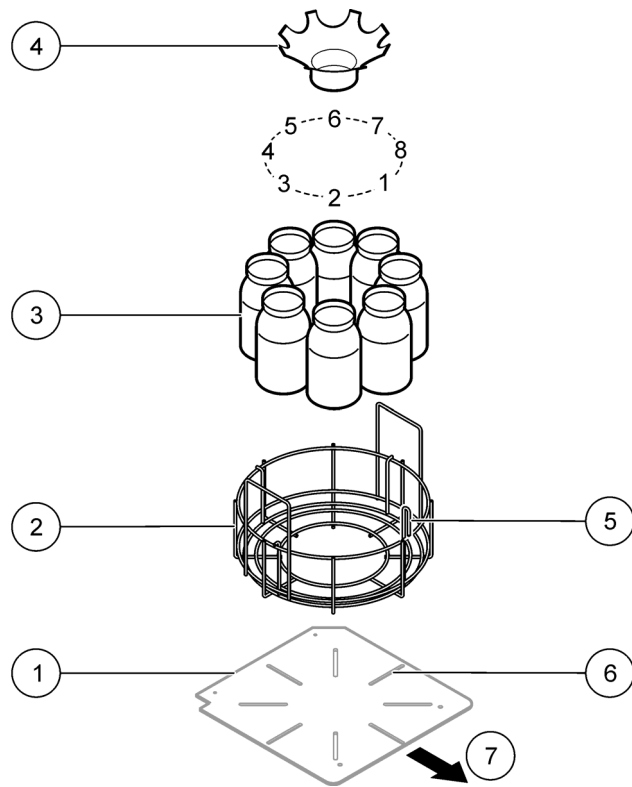
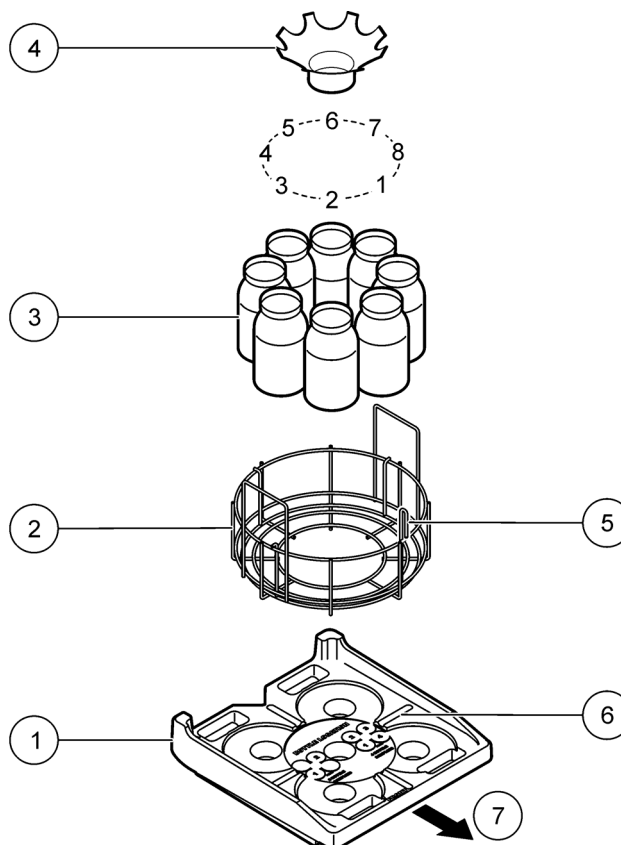

Figure 13 Refrigerated eight bottle installation
Figure 14 AWRS eight bottle installation
2. Place the bottles into the bottle tray. Looking down on the tray, bottle one is the first bottle to the left of the bottle one indicator wire. For Refrigerated Samplers, refer to Figure 13 on page 30). For All Weather Refrigerated Samplers, refer to Figure 14 on page 31.